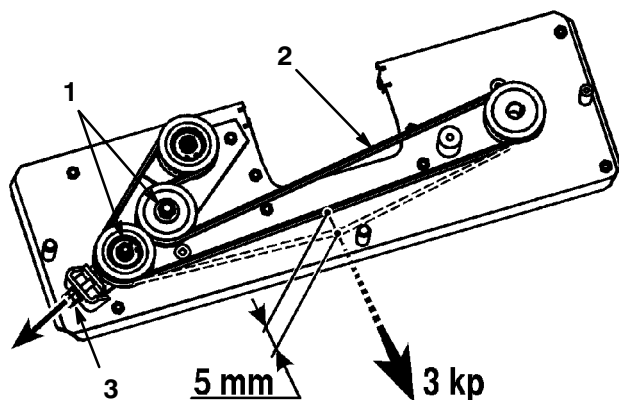

Figure 42
4. Loosen the two hex nuts on the idler pulley (Fig. 42).
5. Adjust the M10 nut until the belt flexes 5 mm with 3 kp of force (Fig. 42).